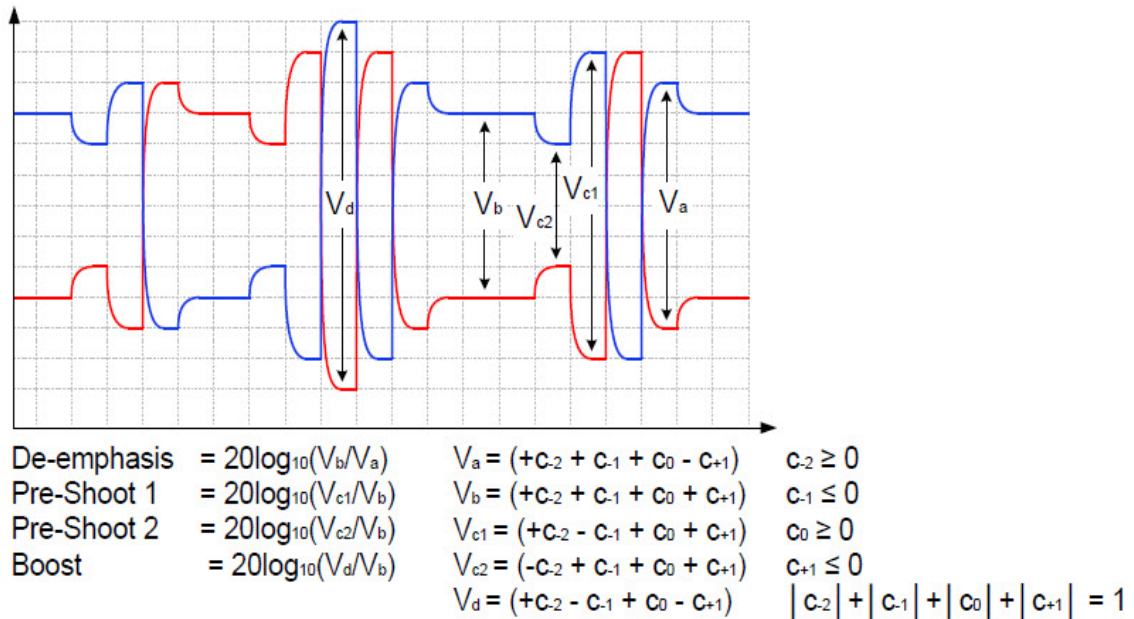

Figure 31 Waveform measurement points for preshoot and de-emphasis
64.0 GT/s PCIe signaling must support the full range of presets given in Table 8-2 (PCIe Base Specification Revision 6.0). Presets are defined in terms of ratios, relating the pre-cursor and post-cursor equalization voltages. The pre-cursor (Vc) is referred to as pre-shoot, while the post-cursor (Vb) is referred to as de-emphasis. This convention permits the specification to retain the existing 2.5 GT/s and 5.0 GT/s definitions for Tx equalization, where only de-emphasis is defined, and it allows preshoot and de-emphasis to be defined such that each is independent of the other. The tolerances in Table 8-1 (PCIe Base Specification Revision 6.0) also apply to 2.5 and 5.0 GT/s de-emphasis. The maximum swing, Vd, is also shown to illustrate that, when both c₊₁ and c₋₁ are nonzero, the swing of Va does not reach the maximum as defined by Vd. The high frequency nature of PCIe signaling makes measurement of single UI pulse heights impractical. Consequently all amplitude measurements are made with low frequency waveforms as shown in Figure 31.
- 13 Computes their equalization voltages by using Matlab, and then calculates equalization ratios by using the formulae stated in Figure 31 (Figure 8-6 of the spec).